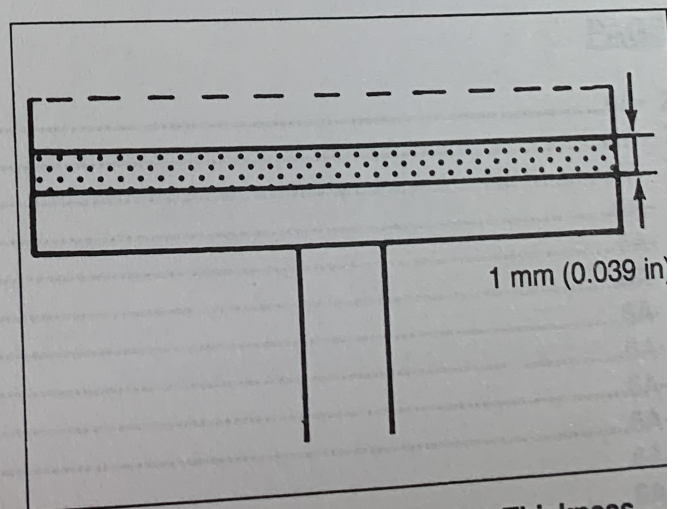

Figure 8. Brake Shoe Lining Thickness
2. The brake shoe lining thickness should not be less than 1 mm (0.039 in) (figure 8).